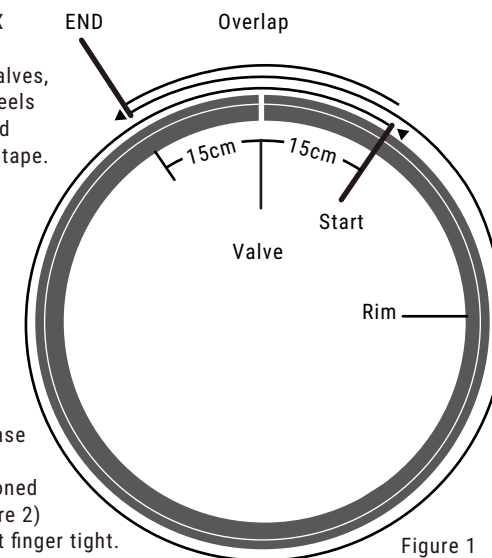

Figure 1
- When installing the rim tape, Ensure the tape is set in the center of the rim bed, covers the entire width of the tire well and make sure that the tape overlaps 15cm on both sides of the valve hole (see Figure 1).